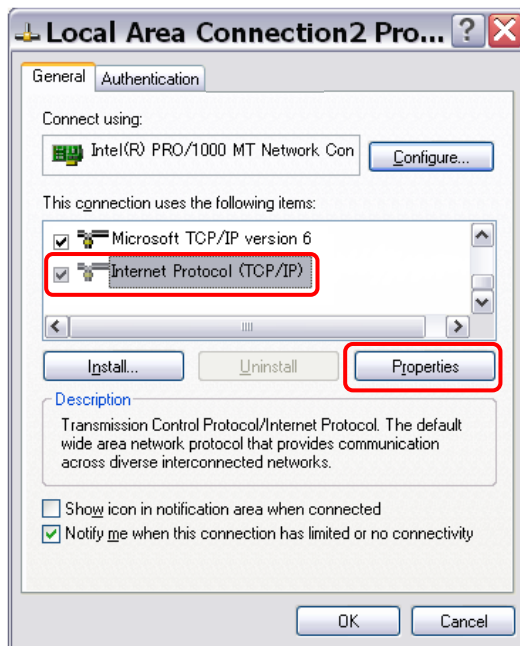

Figure4-5 Network Connections screen
- a) After finishing the operation that is described in “(1) starting set up tool”, confirm that the screen of figure 4-5 is displayed, select “Internet Protocol(TCP/IP)” (on the bottom of the list) from “This Connection use the following items” of “General” tab and click [Properties] button.